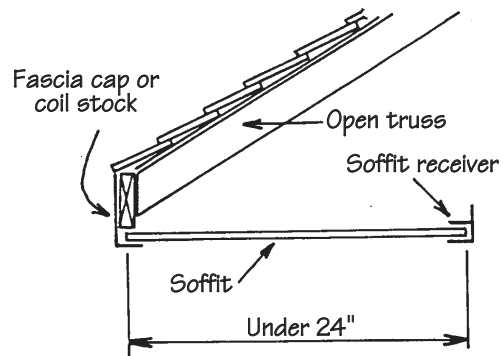

Figure 64.
- Examine the illustrations at right and find one that most closely resembles the construction methods used on this particular project (Fig. 64 through 67).